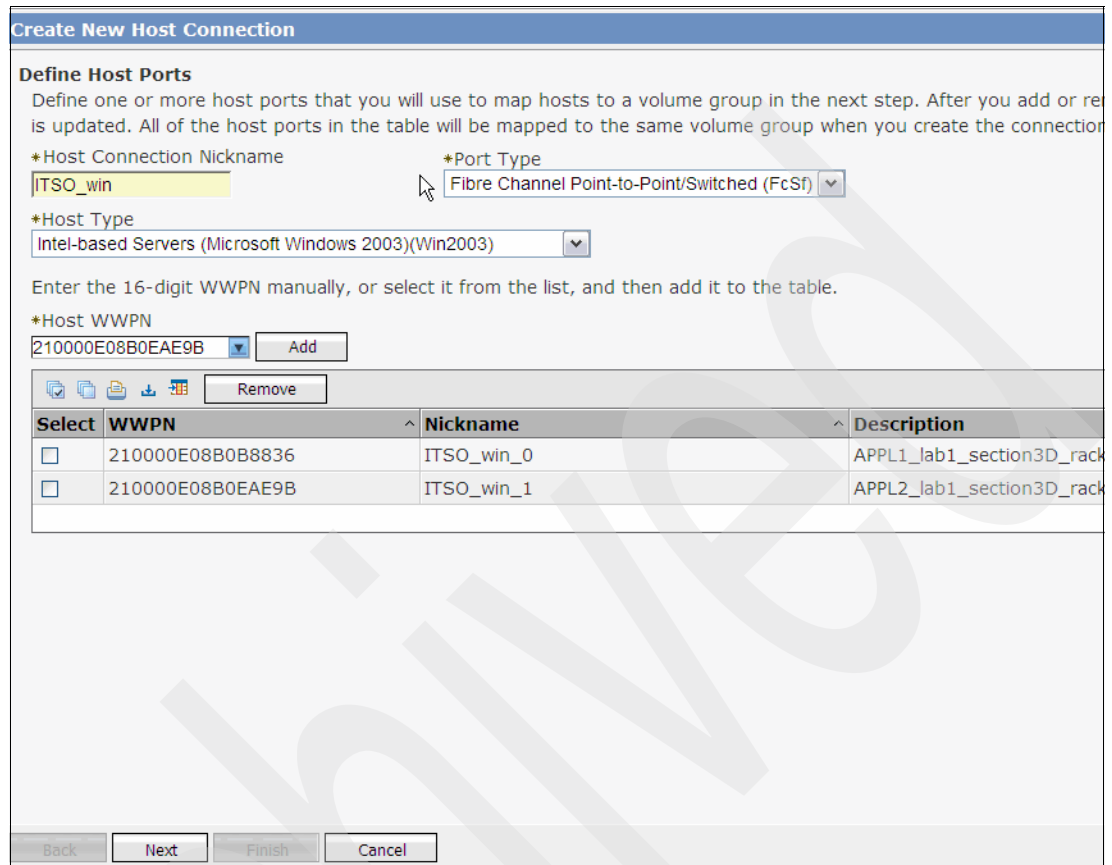

Figure 13-50 Define Host Ports window
- The resulting windows guide you through the host configuration, beginning with the window in Figure 13-50.